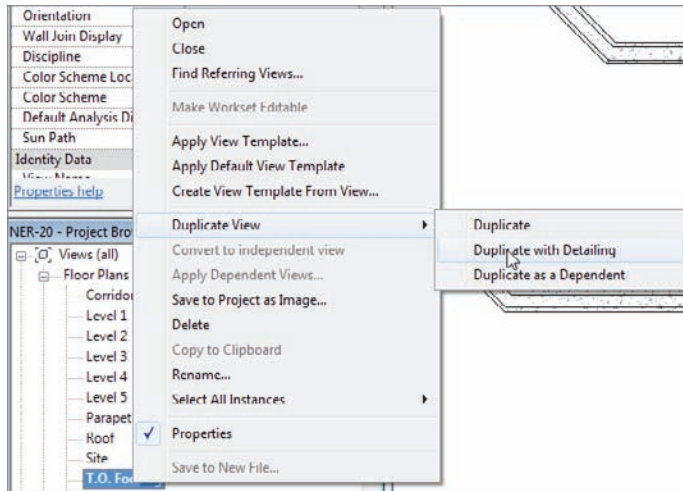

FIGURE 8.68 Selecting Duplicate View > Duplicate With Detailing
1. In the Project Browser, right-click T.O. Footing and select Duplicate View > Duplicate With Detailing, as shown in Figure 8.68. The new view opens.